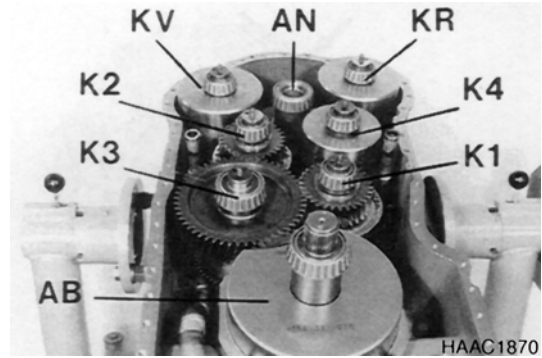

Figure 117
9. Figure 117, shows the installation position of the single clutches and of the input and output.